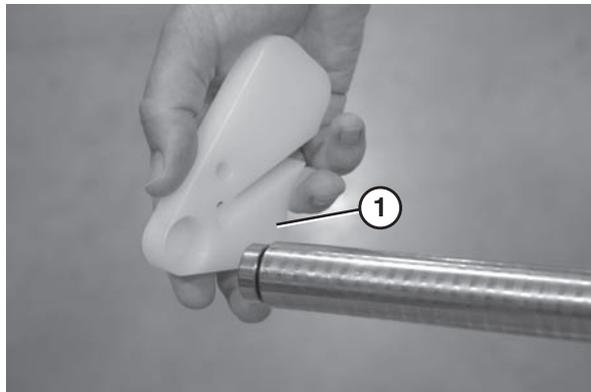

Figure 92
2. Remove the nose bar puck holders (Figure 92, item 1).